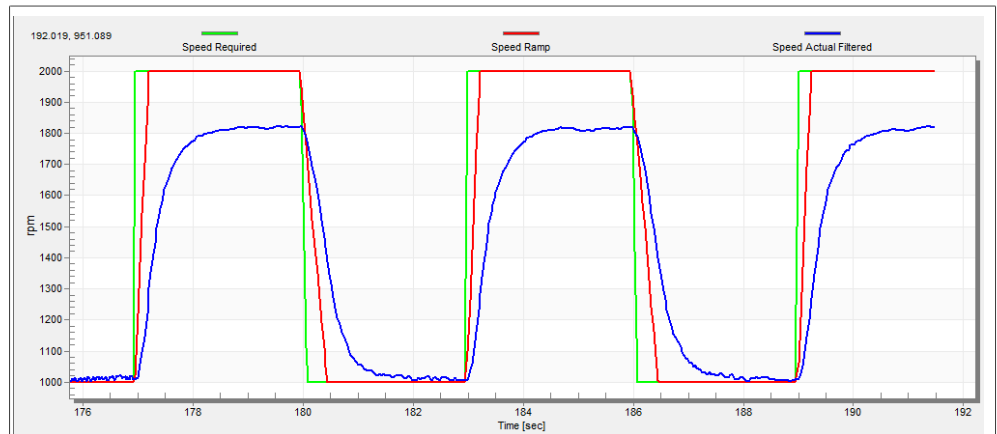

Figure 26. Speed controller response—SL_Ki value is low, Speed Ramp is not achieved
The motor speed control loop is a first-order function with a mechanical time constant that depends on the motor inertia and friction. If the mechanical constant is available, the PI controller constants can be tuned using the loop bandwidth and attenuation. Otherwise, the manual tuning of the P and I portions of the speed controllers is available to obtain the required speed response (see the example response in Figure 26). There are dozens of approaches to tune the PI controller constants. The following steps provide an approach to set and tune the speed PI controller for a PM synchronous motor:
- The “SL_Ki” value is low and the “Speed Actual Filtered” does not achieve the “Speed Ramp” (see Figure 26).
| Fig. 11. | FreeMASTER + MCAT layout | 23 | Fig. 26. | Speed controller response—SL_Ki value is low, Speed Ramp is not achieved | 48 |